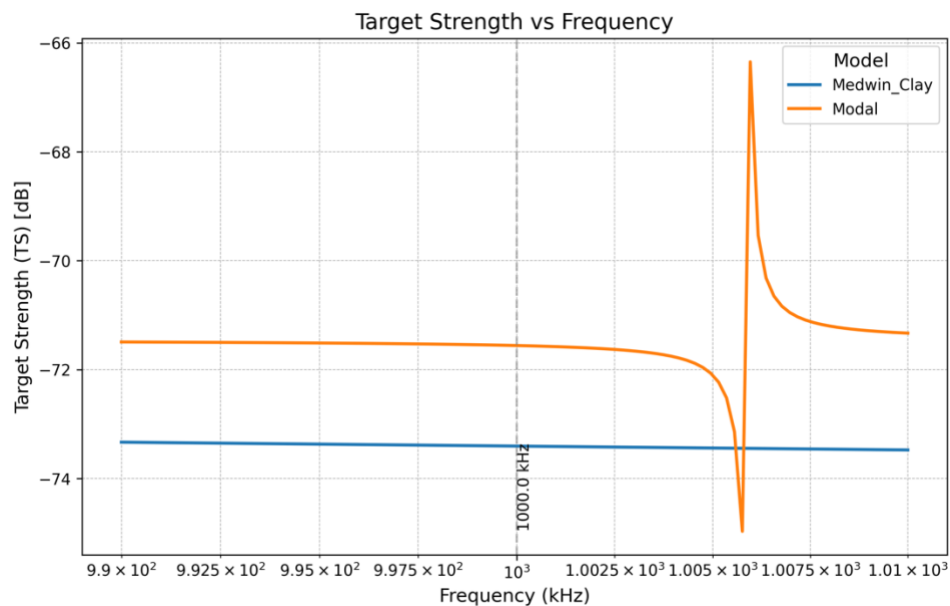
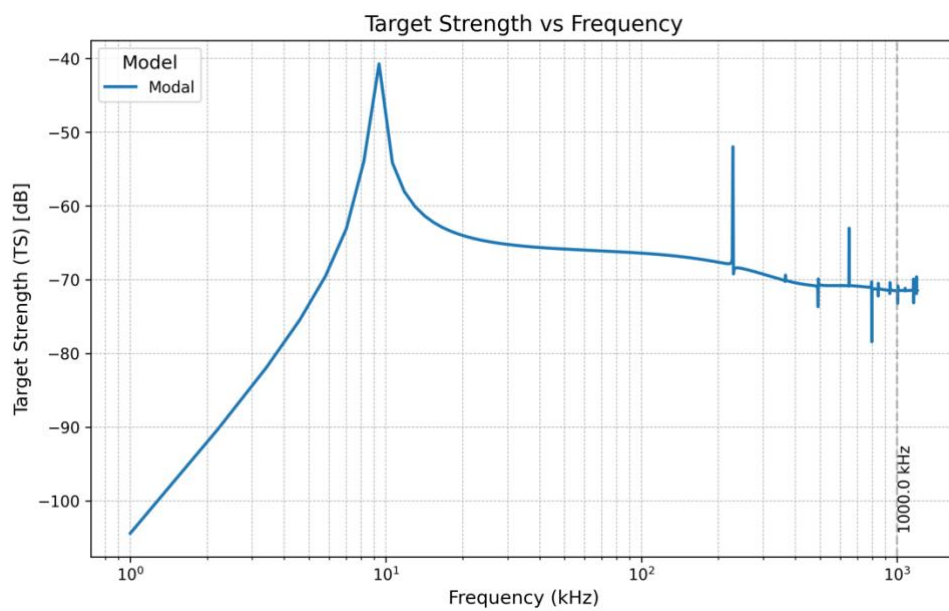

Figure 1: Output plot for single frequency.
Figure 2: Output plot for range of frequency.
7. A graph of TS vs Frequency within the range of ± 10 KHz of the user input frequency (For single frequency analysis) or range of custom frequency selected will be generated automatically at the root directory as ts_vs_frequency_plot.png as shown in Figure 1 and Figure 2.